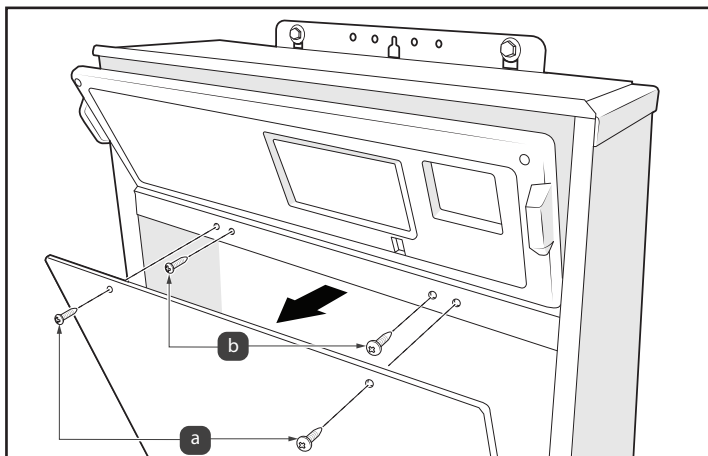

Figure 6. Remove Lower Screws
16. Remove 2 outer retaining screws on top of the High Voltage cover panel, see Figure 6(a).
18. Remove 2 inner retaining screws from Pentair® control panel, see Figure 6(b).